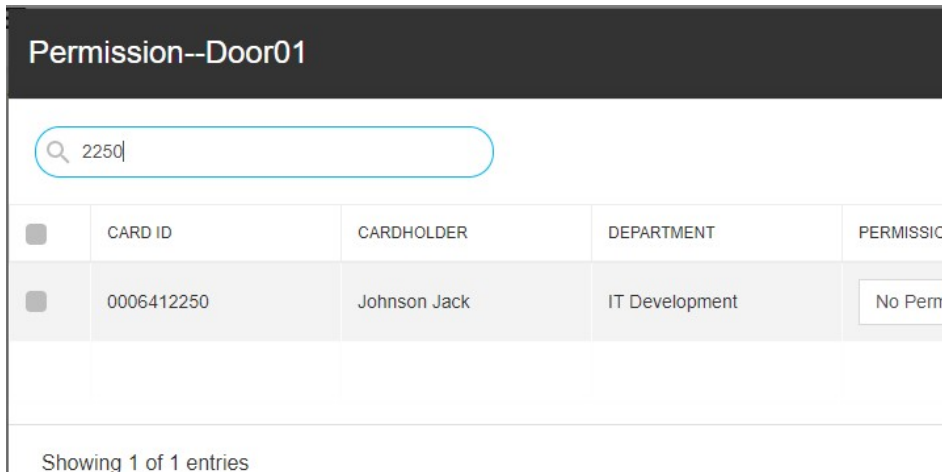

Figure 13-23 Searching for a card
2. Enter the search content in the search box above the list. The system searches for the cards according to the entered content, as shown in Figure 13-23. The search function supports fuzzy search by card ID, card holder, and department.